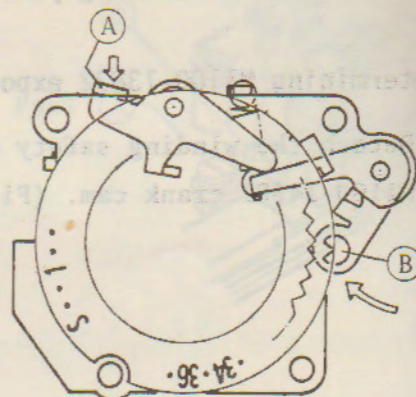

Fig.8
1. When closing the back cover, the film counter advance cam (B) strikes to the film counter gear with the lever (A) is pushed. (Fig. 8)